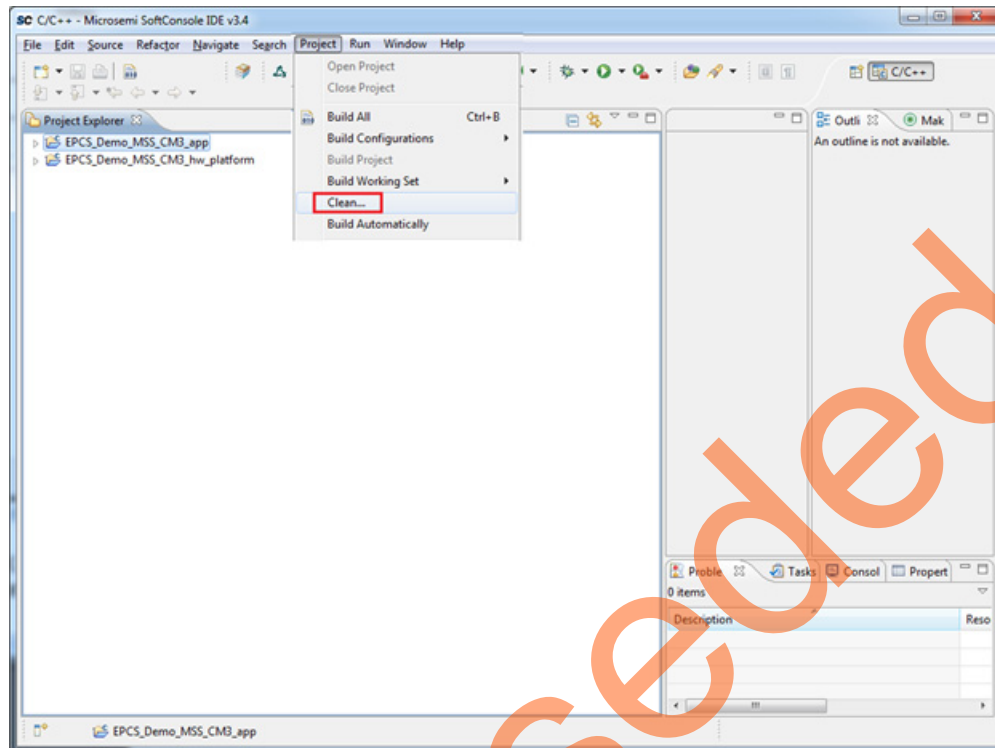

Figure 57 • Building the SoftConsole Project
10. To clean and build the project, select **Project > Clean**, as shown in Figure 57.